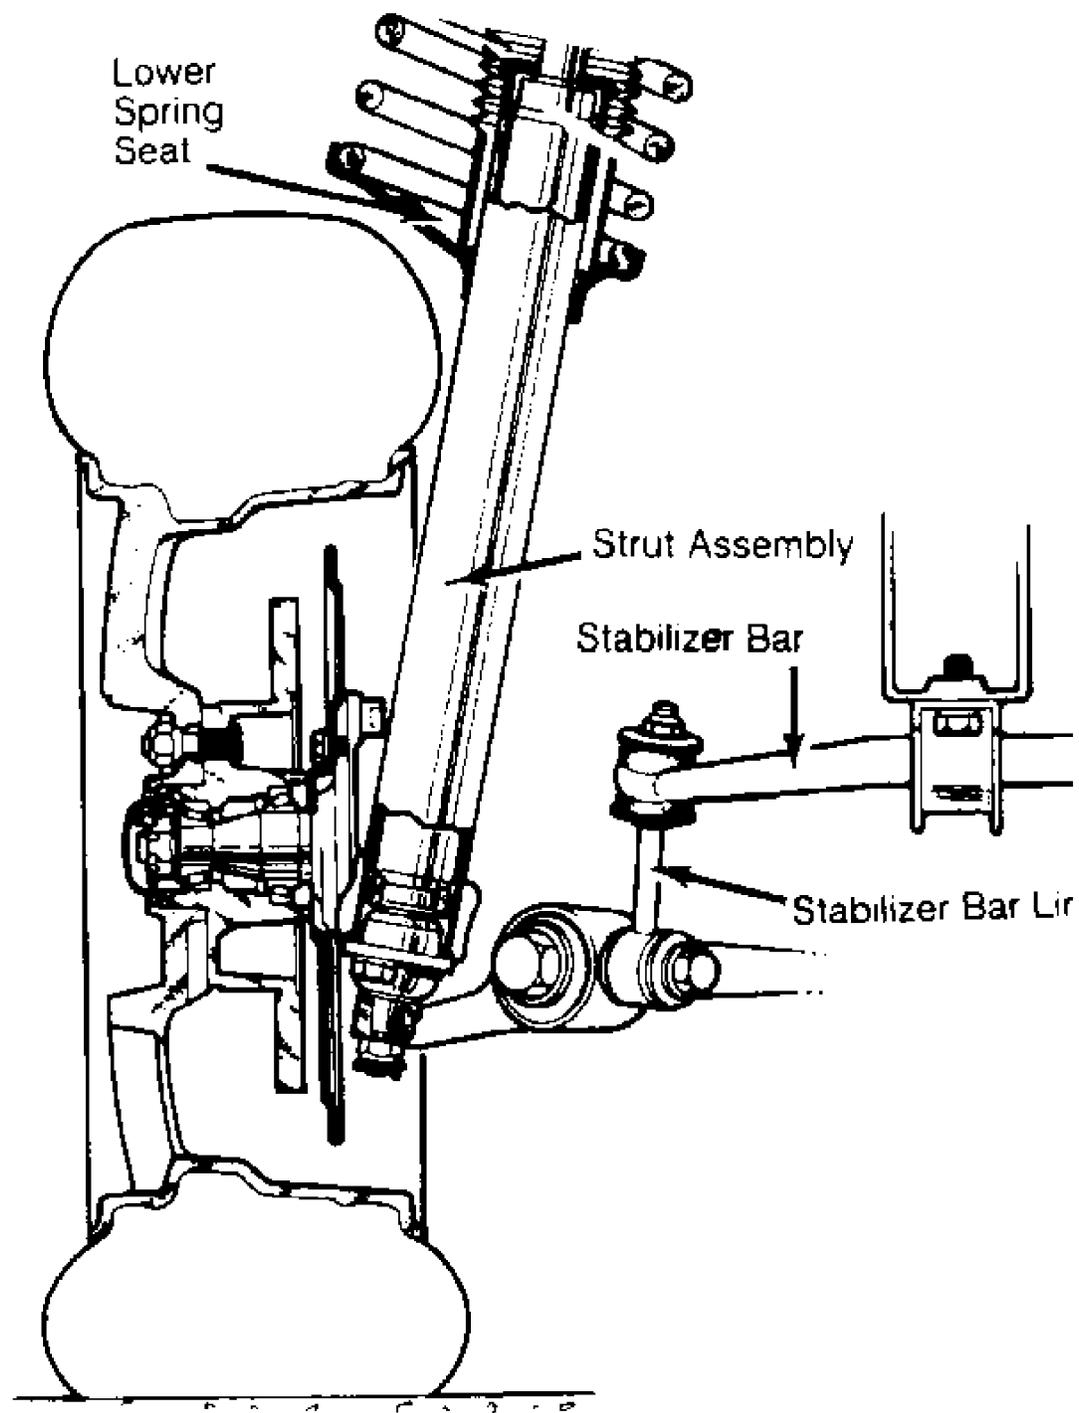

Fig. 2: Identifying Front Suspension
2) Compress spring and remove center nut, upper spring seat and spring. Using Wrench (5039 for standard strut or 5173 for gas strut), remove strut retaining nut and strut. See Fig. 2.